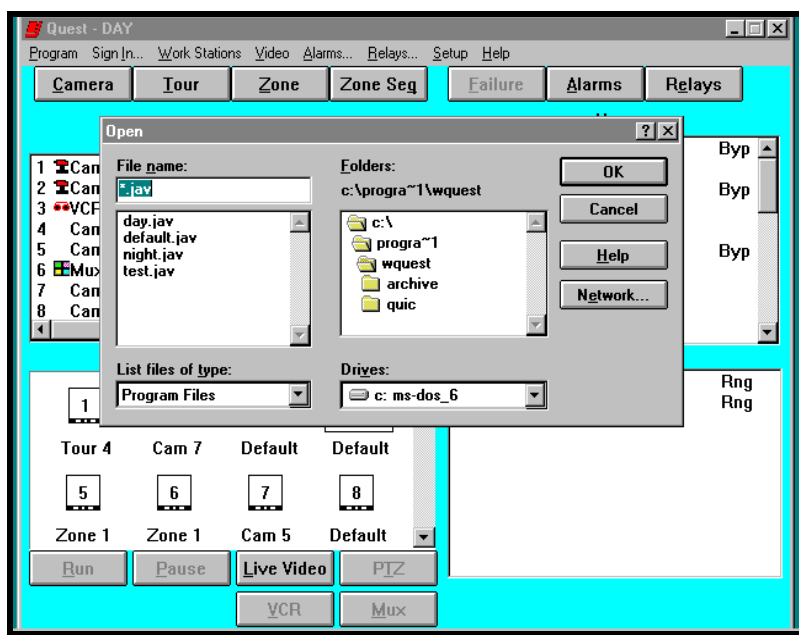

Figure 2-16. Open File Dialog Box
2. Click on **Open** to load a previously saved program (Figure 2-16).